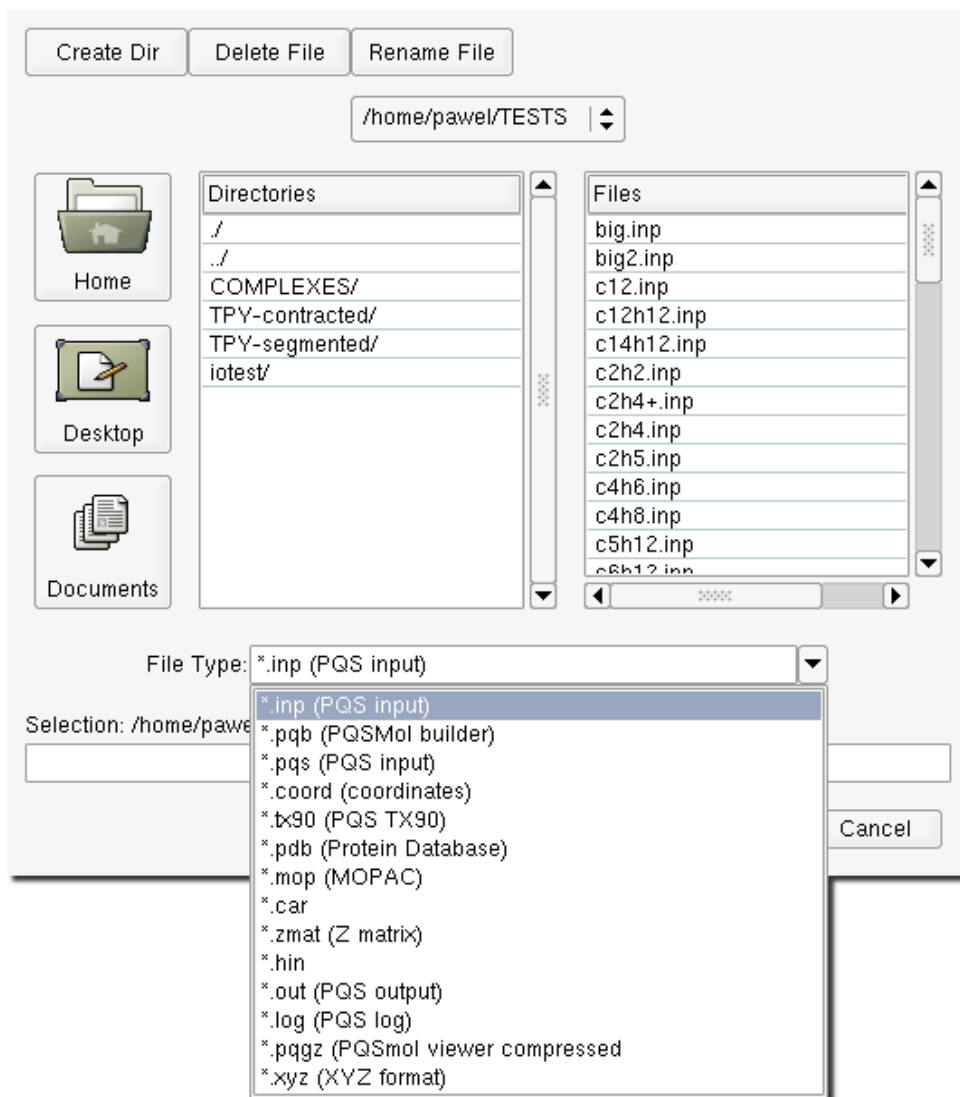

Figure 2.24: Import geometry dialog
- **Import** allows a range of different file types (other than **.pqb** files) to be imported. The *Import Geometry* dialog is shown in Figure 2.24.